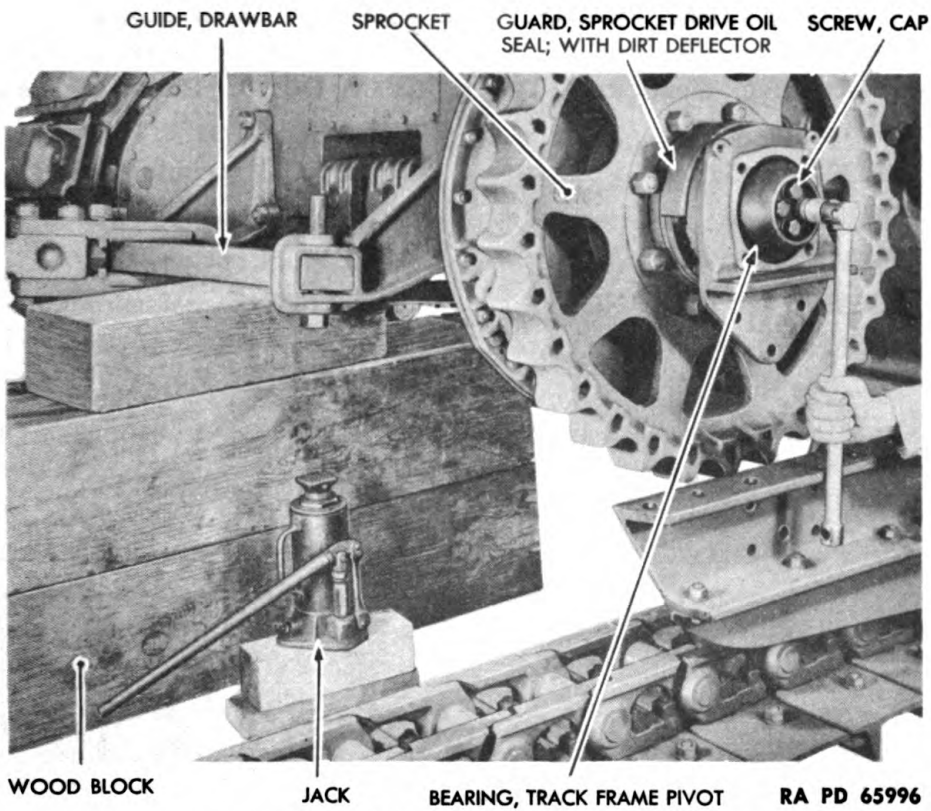

Figure 119 — Track Frame Pivot Bearing Removal
(2) REMOVE TRACK FRAME PIVOT BEARING (figs. 119 and 183).